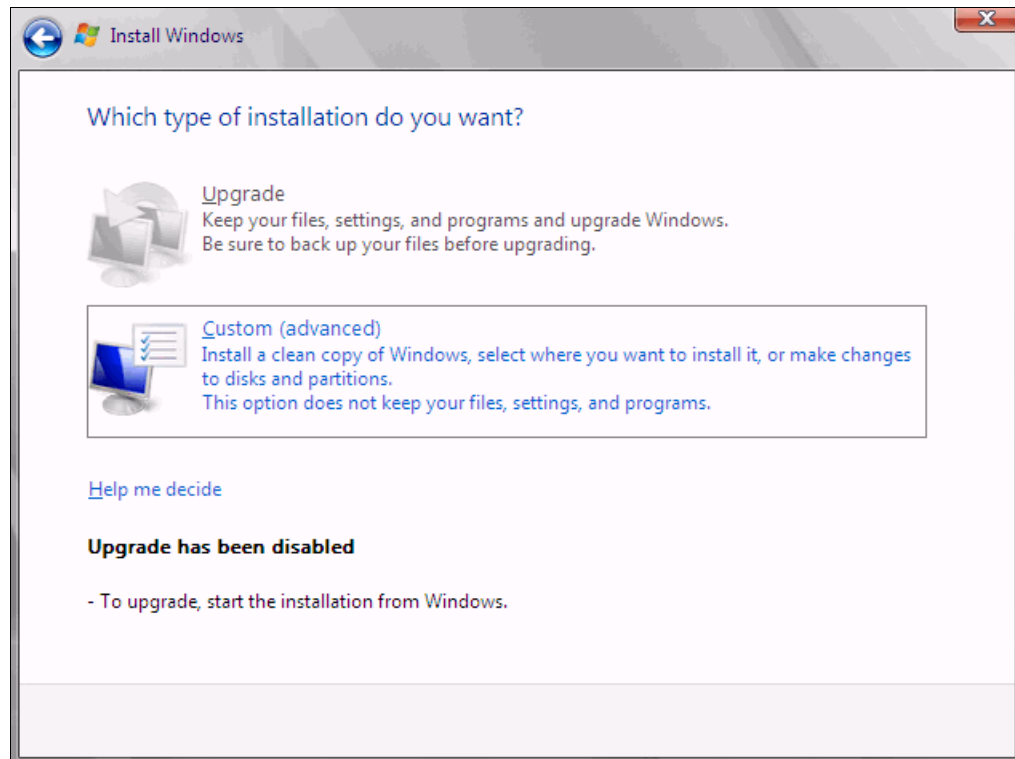

Figure 9-218 Selecting the Custom (advanced) option to install a clean copy of Windows
6. For the type of installation (Figure 9-218), select **Custom (advanced)** to install a clean copy of Windows. Then click **Next**.